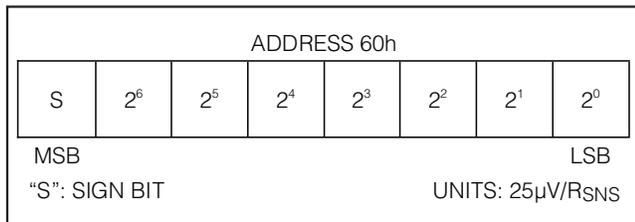

Figure 9. Current Offset Bias Register Format
Read and write access is allowed to COBR. Whenever the COBR is written, the new value is applied to all subsequent current measurements. COBR can be programmed in 25µV steps to any value between +3.175mV and -3.2mV. The COBR value is stored as a two's-complement value in nonvolatile (NV) memory. The COBR factory default value is 00h. Figure 9 shows the Current Offset Bias Register format.